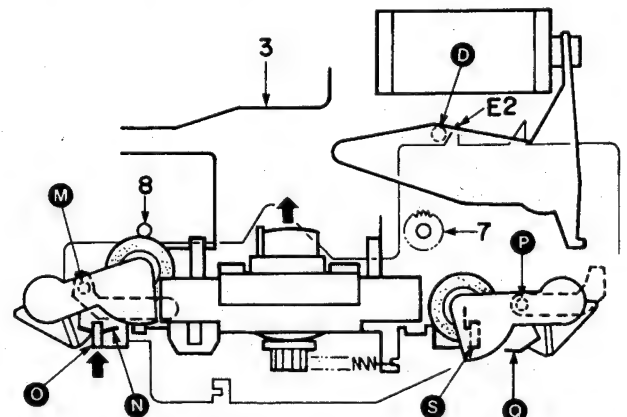

Fig. 14 Perspective view from the front
2-12) When the SUB-CHASSIS comes to the top, the spring (C) of the pinch roller (R) does not contact the SUB-CHASSIS edge (S) because the SLIDER is fixed in position of Fig. 14 by the pin (D) of the FD ARM, and the pinch roller (R) is not pressed against the capstan because the boss (P) is held by the groove of the SLIDER.